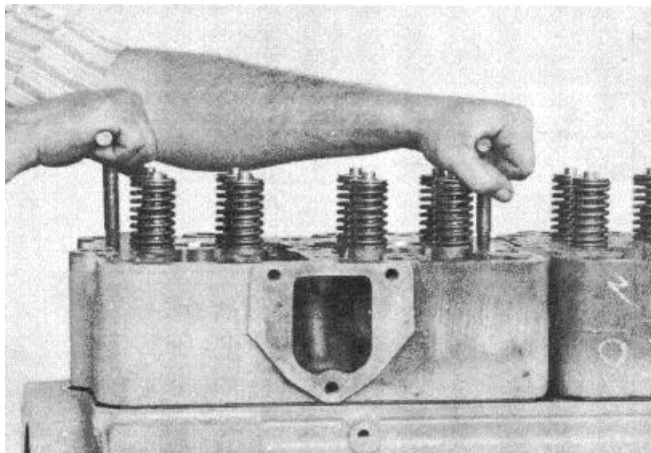

Fig. 14-25. Install The Cylinder Heads.
3. Install two guide studs into the cylinder block. Use the guide pins to help you to install the cylinder head in the correct position on the cylinder block. Install T-handles into the cylinder head. Put the cylinder head over the guide pins and into position on the cylinder block. Use the T-handles to lift the cylinder head, Fig. 14-25.